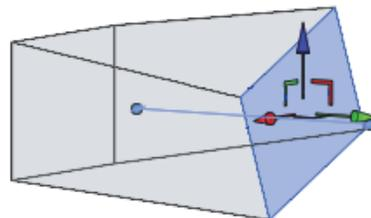

Figure 1–65
- To remove a face, an edge, or a vertex, select it and click  (Delete), or press <Delete>. In the example shown in Figure 1–66, a vertex has been selected and deleted.